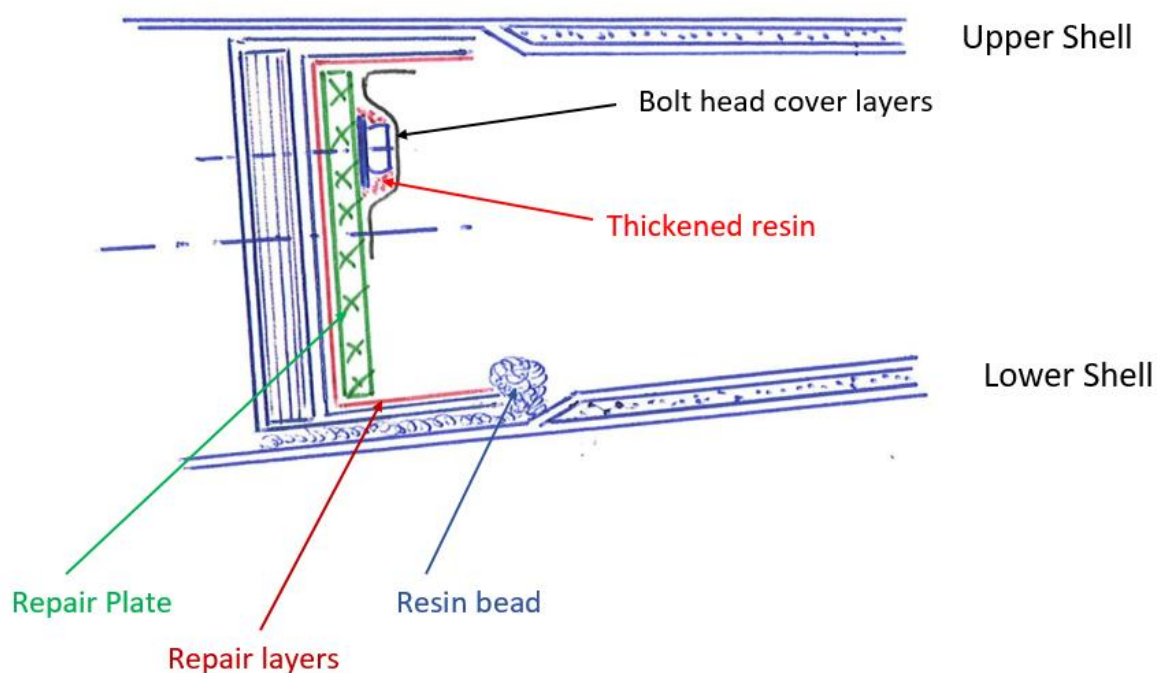

Figure 3: Repair schematic for locations 5/14, 6/13, 8/11 and 9/10
- 7.1.13 Cover the insert along the spar with two layers of glass fabric GS510031 $\pm 45^\circ$, refer to repair schematic in Figure 3.